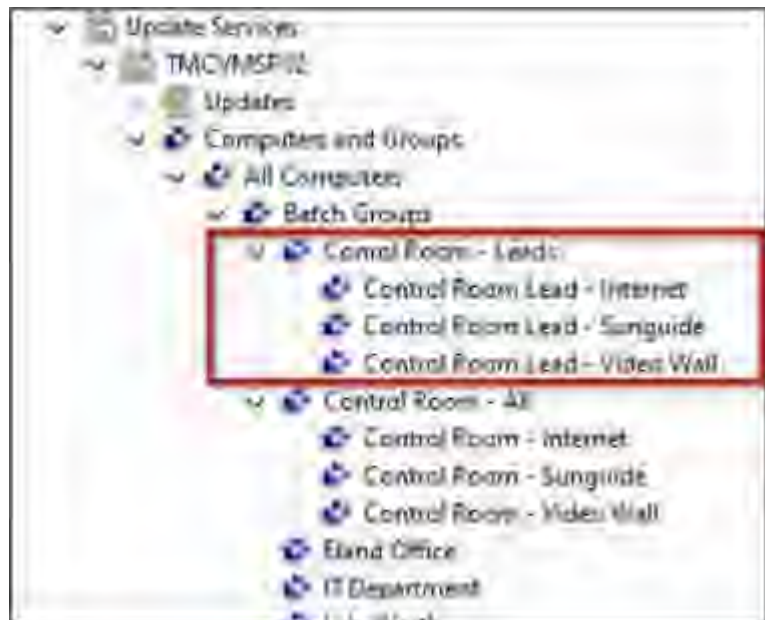

Figure 1. Lead Operator Workstations
3. Once functionality is confirmed on IT workstations, updates are deployed on Lead Operator workstations in the Control Room (Figure 1 above) and tested for five days.